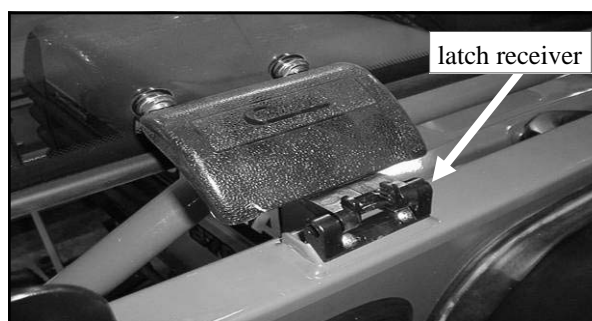

Fig. 9.2 (view from left inside of tractor)
9.2 Per fig. 9.2, attach windshield latches to windshield latch receivers on the cowl by squeezing tabs to retract spring loaded pins. Lift up on bottom of windshield and close latches. Check alignment of windshield with side frames and tighten hinge hardware. **CAUTION: hinges are plastic components. Do not overtighten hardware. Torque to 7 foot-pounds max.**